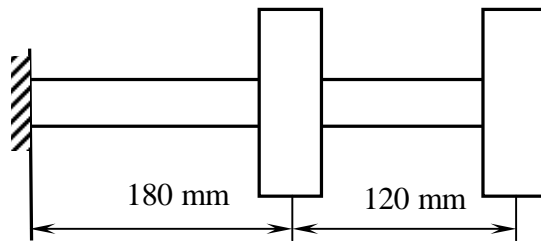

Fig. 4
- 18 Determine the fundamental natural frequency of transverse vibration of the system shown in Fig. 4 using Rayleigh's method and verify it using Dunkerley's method. Take $EI = 8 \times 10^4 \text{ Nm}^2$.